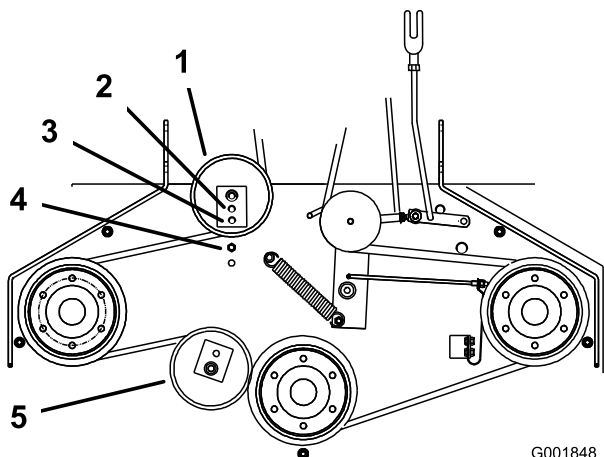

Figure 55
positioned to the middle or front hole (Figure 55). Use the hole that will give the correct adjustment.
- When the idler pulley is moved the belt guide must be moved. Move the belt guide to the front position (Figure 55).